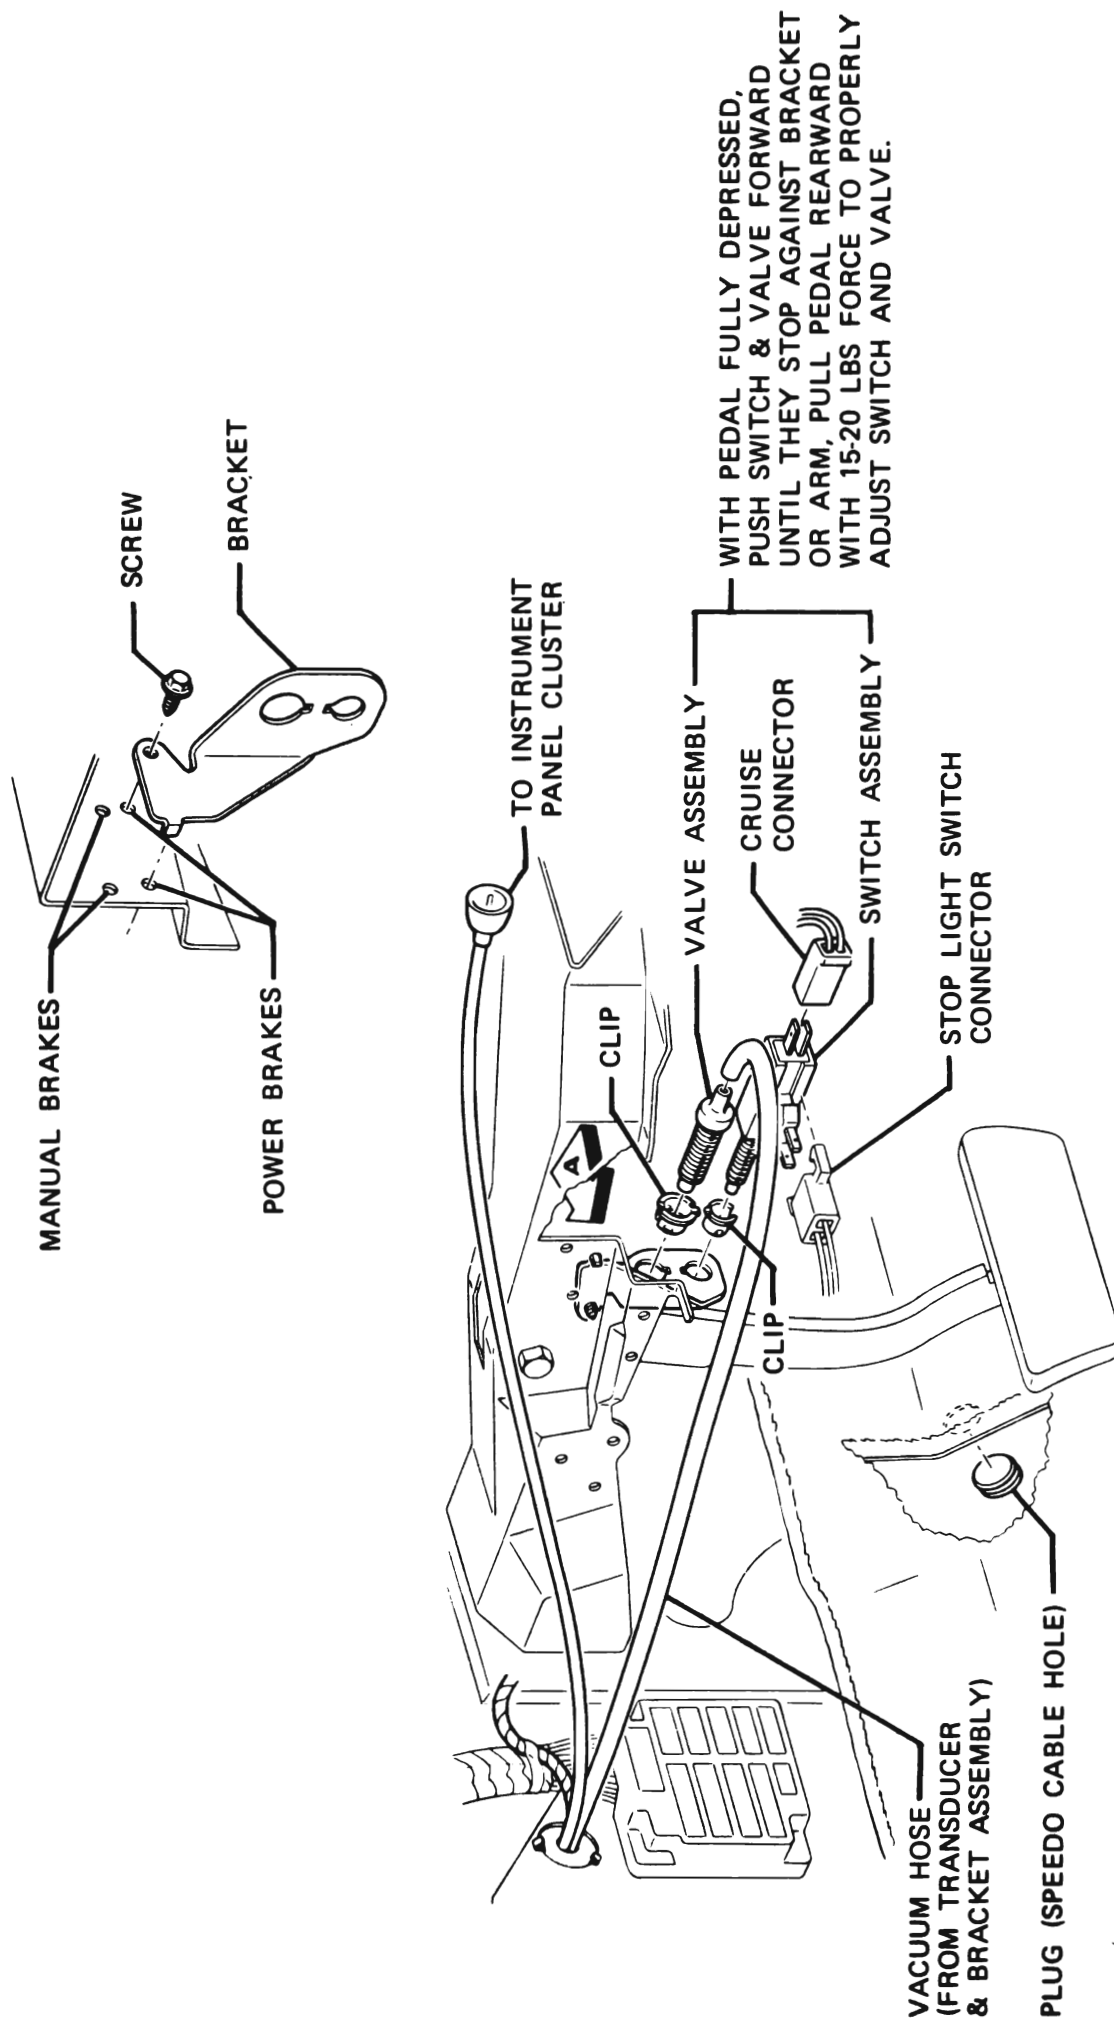

Figure 65-8 Cruise Control - Passenger Compartment - 4D-4F-4G-4H Series
(Figures 65-8 and 9 show the units in the installed position on the three series of vehicles.)
2. Check bead chain slack by unsnapping swivel from ball stud and holding chain taut at ball stud; center of swivel should extend 1/8 inch beyond center of ball stud. See Figure 65-8 or 9.